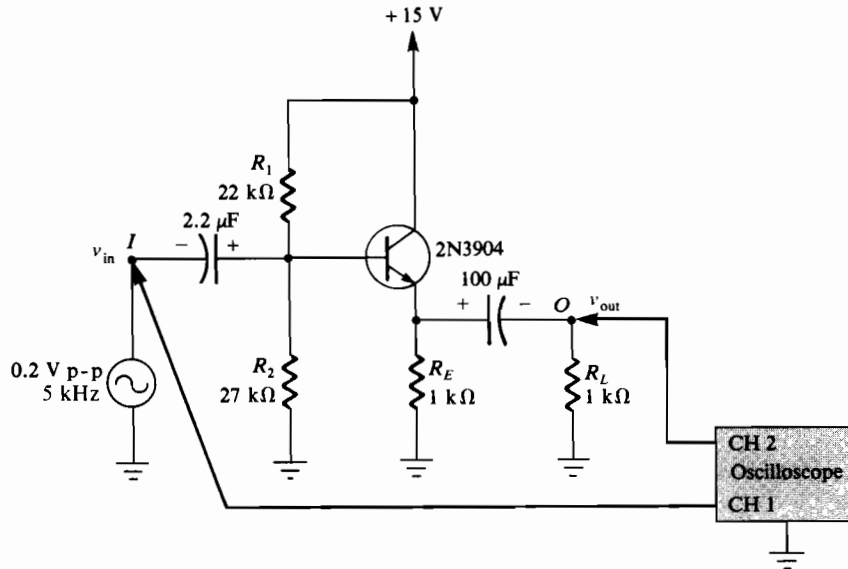

FIGURE 14-1 Schematic diagram of circuit.
1. Wire the circuit shown in Figure 14-1, omitting the signal generator and the power supply.
2. After you have checked all connections, apply the 15-V supply voltage to the breadboard. With a VOM or DMM, individually measure the transistor dc base and emitter voltages with respect to ground, recording your results in Table 14-1. Based on the resistor values of Figure 14-1, determine the expected values of these two voltages (Equations 4 and 5), assuming a base-emitter voltage drop of 0.7 V, and compare them with the measured values in Table 14-1.
3. Connect Channel 1 of your oscilloscope at point I (v_{in}) and Channel 2 to point O (v_{out}). Then connect the signal generator to the circuit as shown in Figure 14-1, and adjust the sine wave output level of the generator at 0.2 V *peak-to-peak* at a frequency of 5 kHz.